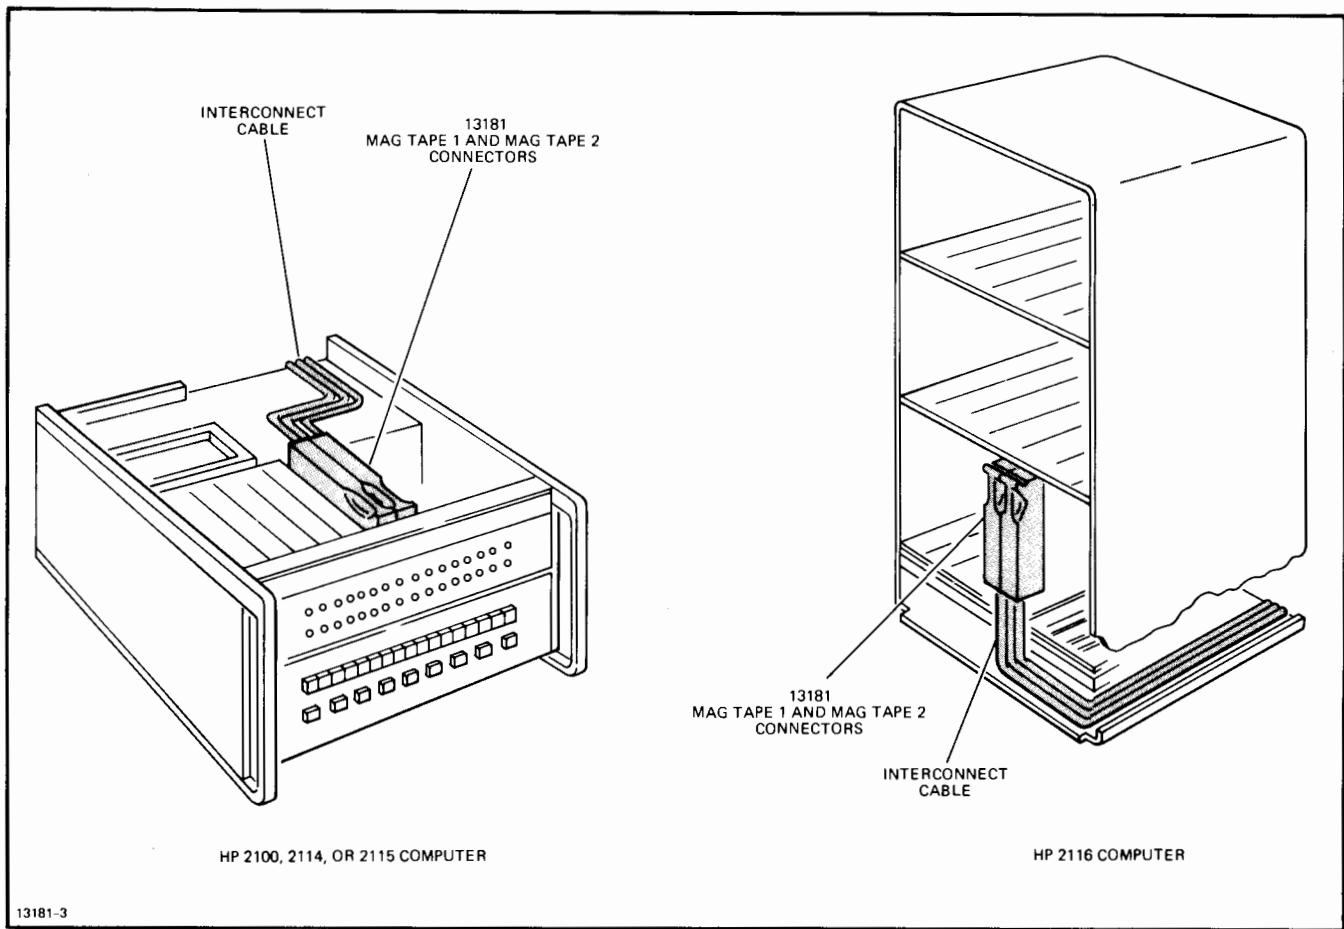

Figure 2-1. Typical Interconnect Cable Installation at the Computer
2-10. Install the mag tape 1 and mag tape 2 printed-circuit assemblies as follows (see figure 2-1):
- a. Route the 13181-60030 Interconnect Cable in the computer as illustrated in figure 2-1. Allow sufficient cable slack to prevent strain at the connectors.